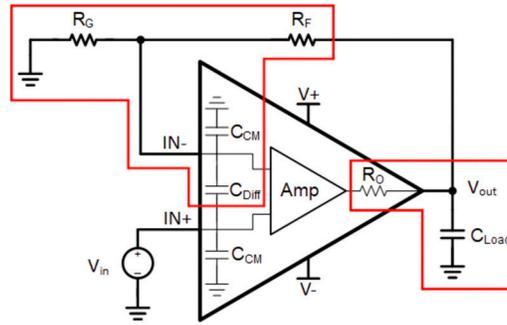

Figure 2. Common Sources of Op Amp Instability
Large resistor-capacitor (RC) time constants in the feedback network are the cause of such delays. A combination of the op amp’s open-loop output impedance (R_O) and the amplifier’s load capacitance (C_{Load}), or a combination of a large feedback resistance (R_F and R_G) with the op amp’s input capacitance (C_{CM} and C_{Diff}), form RC time constants. Figure 2 shows an example of these components in an op amp circuit. Note that some elements are internal to the op amp and others are external. The larger the RC time constant, the longer the delay.